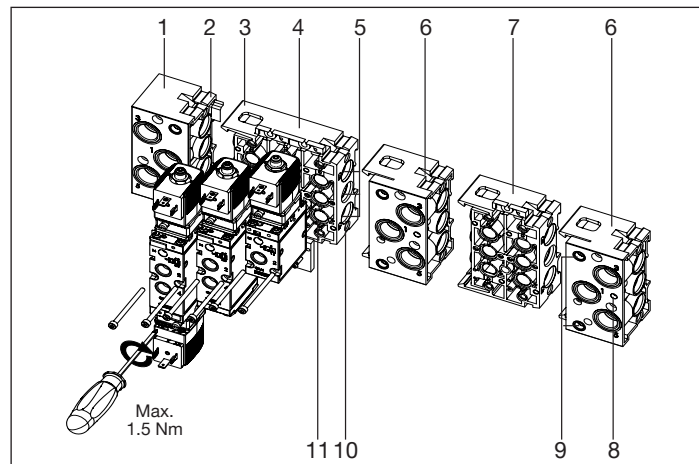

Fig. 6: Example of a multi-block with type 6519 valves
- Begin assembly with connection module on the left (see “Fig. 6”)